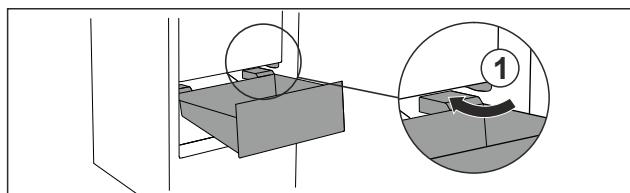

Fig. 78
- Guide drawer in at an angle around the stoppers Fig. 78 (1).